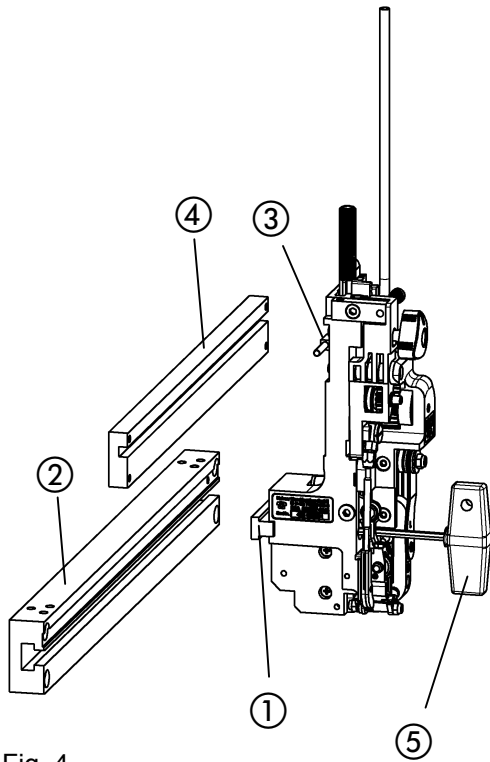
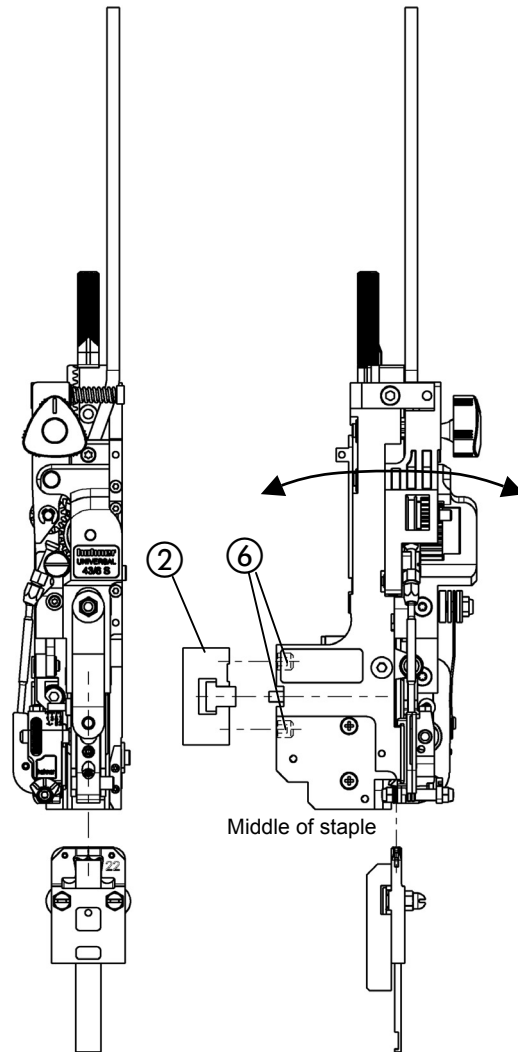

Fig. 4
Fig. 5
- Fig. 4 -
- Unscrew tenon block from the stitching head with Allen key SW4 ⑤.
- Introduce tenon block laterally into the stitching head mounting ②.
- Insert stitching head into stitching head mounting, so that the driver lug ③ can be inserted into the stroke bar ④ and the tenon block fits into the stitching head.
- Fix the stitching head by tightening the tenon block in the stitching head mounting using the Allen key ⑤.
- Fig. 4, Fig. 5 -
- Loosen the tenon block ① with the Allen key ⑤.
- Fix the tenon block in the stitching head mounting ② with the Allen key.
- Fig. 5 -